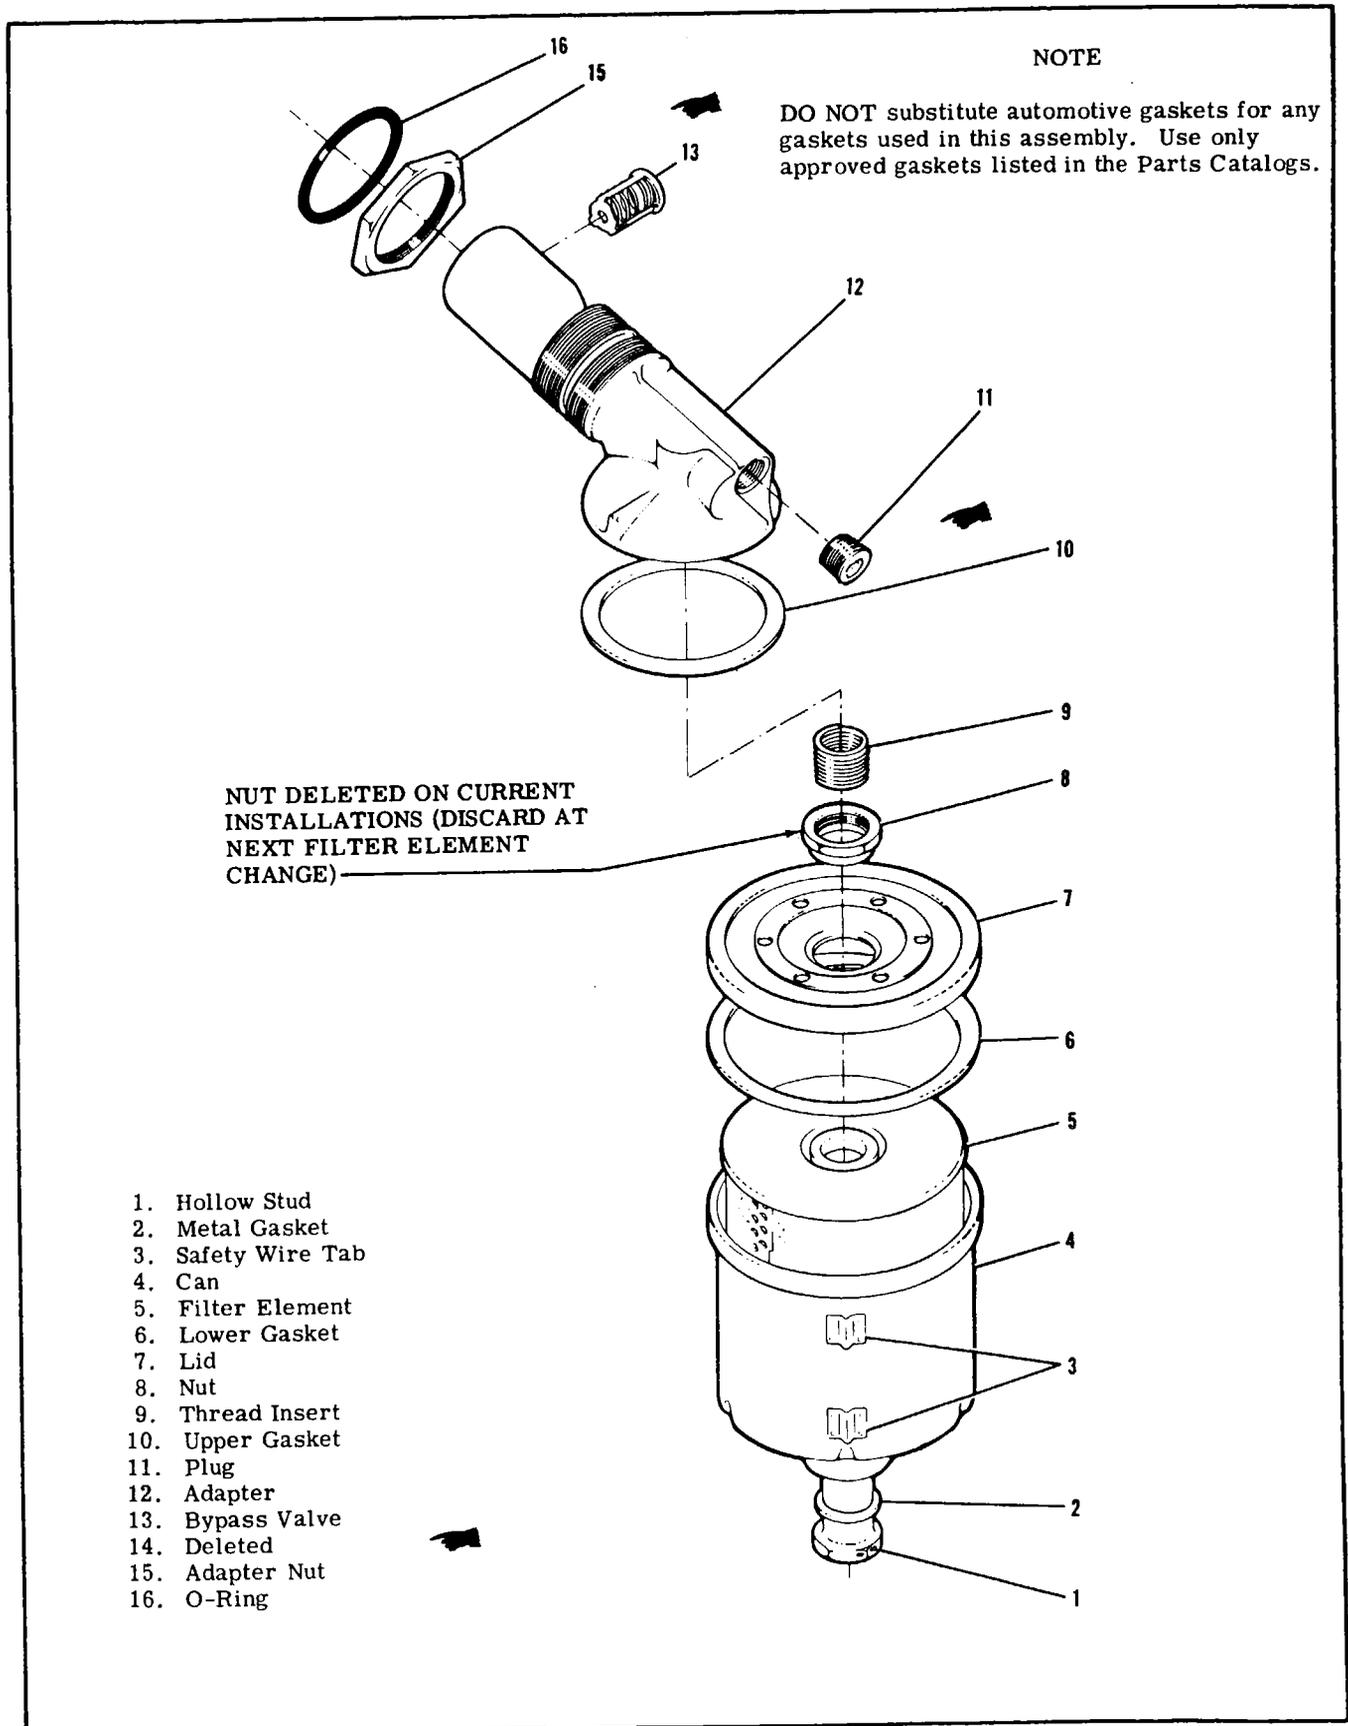

Figure 12-4. Full-Flow Oil Filter
12-33. REMOVAL AND INSTALLATION. (Refer to figure 12-4.)
12-35. REMOVAL. (Refer to figure 12-4.)
Figure 12-4 shows the relative position of the internal parts of the filter adapter and may be used as a guide during installation of parts. The bypass valve is to be installed as a complete unit, with the valve being staked three places. The heli-coil type insert (9) in the adapter may be replaced, although special tools are required. Follow instructions of the tool manufacturer for their use. Inspect threads
- a. Assemble adapter nut (15) and new O-ring (16) on adapter (12) in sequence illustrated in figure 12-4.
- c. Apply anti-seize compound sparingly to the adapter threads, then simultaneously screw adapter and adapter nut into engine until O-ring seats against engine boss without turning adapter nut (15). Rotate adapter to approximate angular position noted during removal. Do not tighten adapter nut at this time.